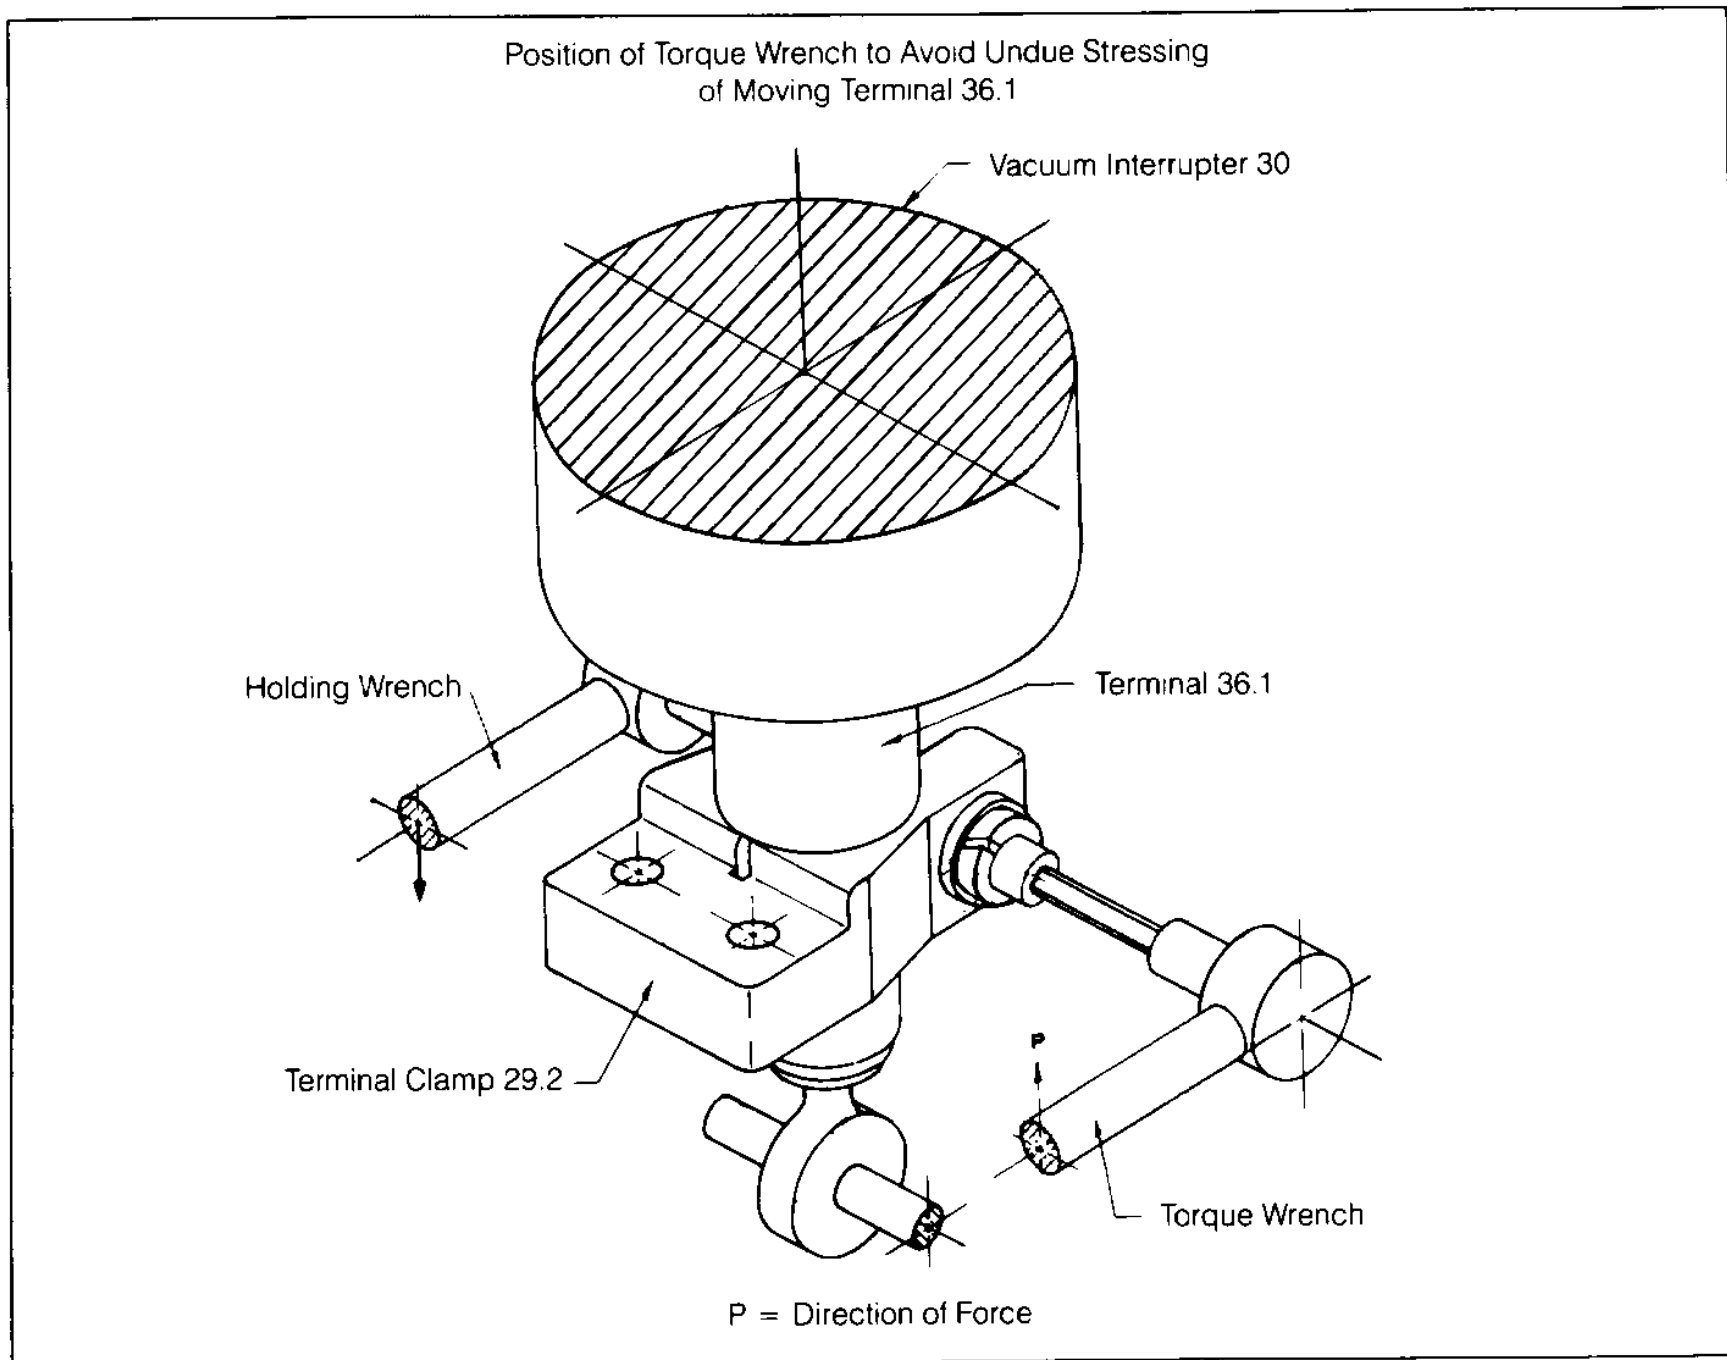

Figure 23
- 1.2 Loosen the lateral bolt(s) on terminal clamp. 29.2. Refer to figure 23 and employ the illustrated procedure to loosen clamp hardware. (8mm hex allen and 17mm socket)
- 2.7 Elevate terminal clamp, 29.2, against the locking ring on the movable terminal of the vacuum tube, 36.1 and position the interrupter 30, so that its groove faces the connecting surface of flexible strap 29.1. Refer to Figure 23 and employ technique illustrated to fasten terminal clamp. Note opposing wrenches. Tighten the bolt(s) of the terminal clamp to a torque